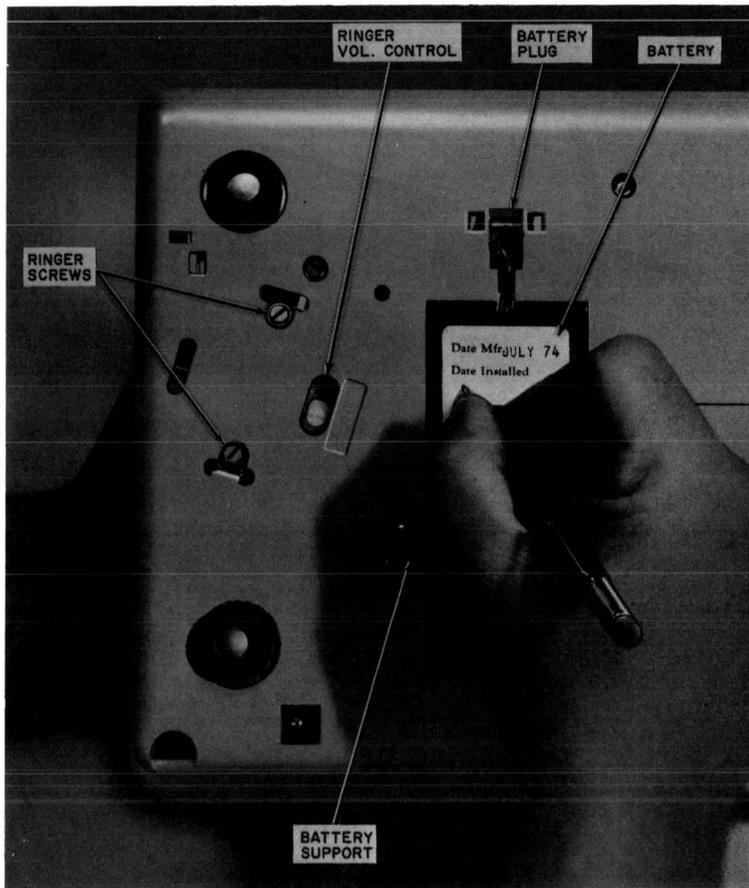

Fig. 6—Telephone Set, Bottom View
- (c) Bottom of telephone set (Fig. 6):
6.03 The KS-20390L4 battery has an expected life of about 4 years. It can be replaced without loss of memory provided that commercial AC power to the set is continuously maintained. To replace the battery, proceed as follows (Fig. 6):